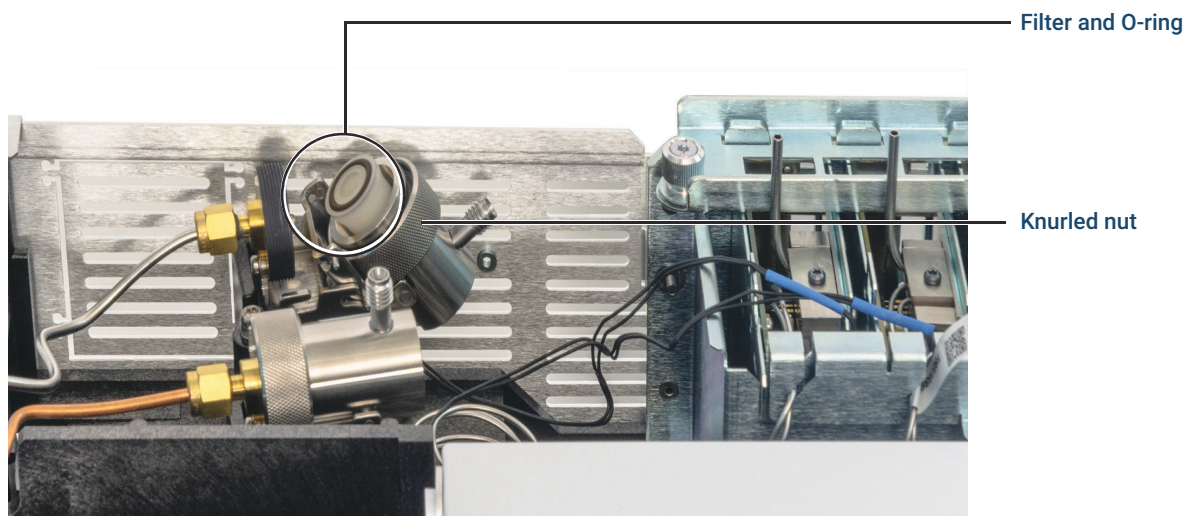

Figure 25. Slide trap assembly to expose the filter
5. Tilt the split vent trap assembly backwards until it stops, exposing the filter. See Figure 25.